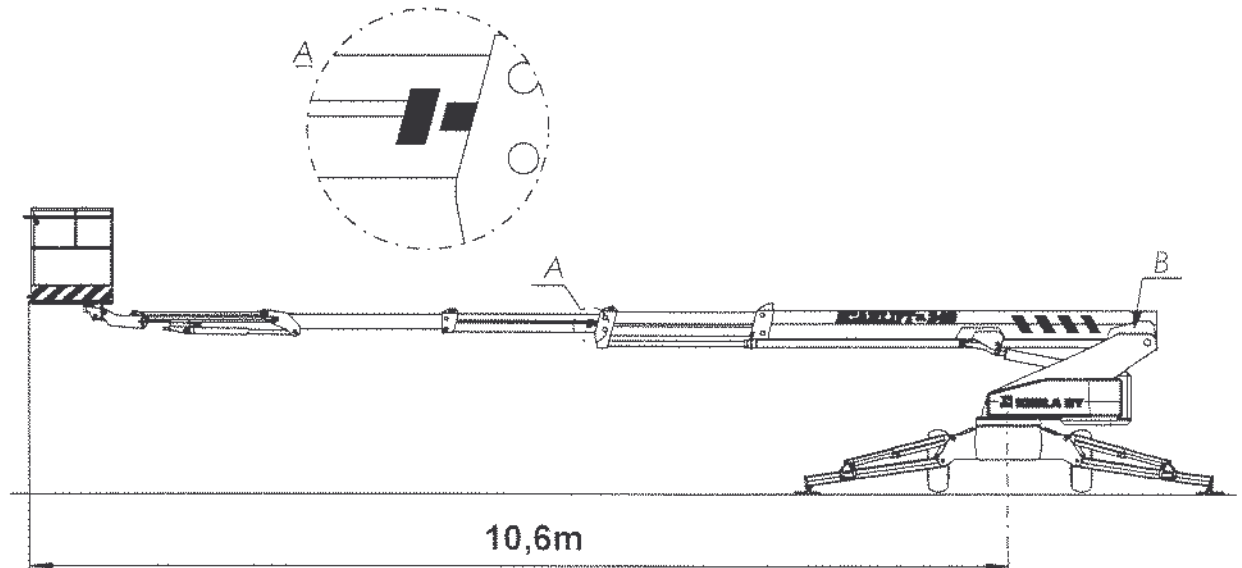

Figure 19-1. Checking the reach of the telescope
- If needed, check the creeping of the outrigger cylinders in the position shown in figure 19-1, by slewing the booms above each outrigger and holding them there for about two minutes. If the cylinder retracts, have it repaired immediately. Do not use a faulty MEWP.